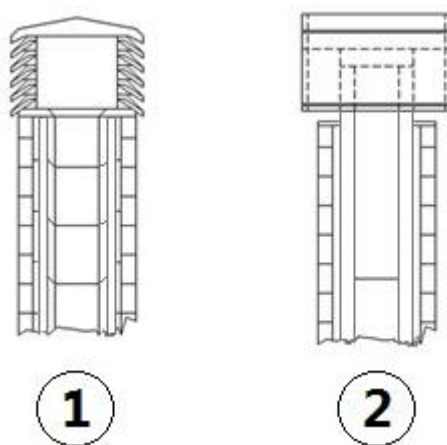

Fig. 5 - Anti-wind chimney pots
- We recommend using an anti-wind chimney pot, see **Fig. 5 page 7**.
- External chimney flue entirely made up of insulated stainless steel pipes, i.e. with double wall of minimum $\text{Ø}120$ mm: all must be firmly attached to the wall. For chimney against wind effects please (see Fig. 5 page 7).